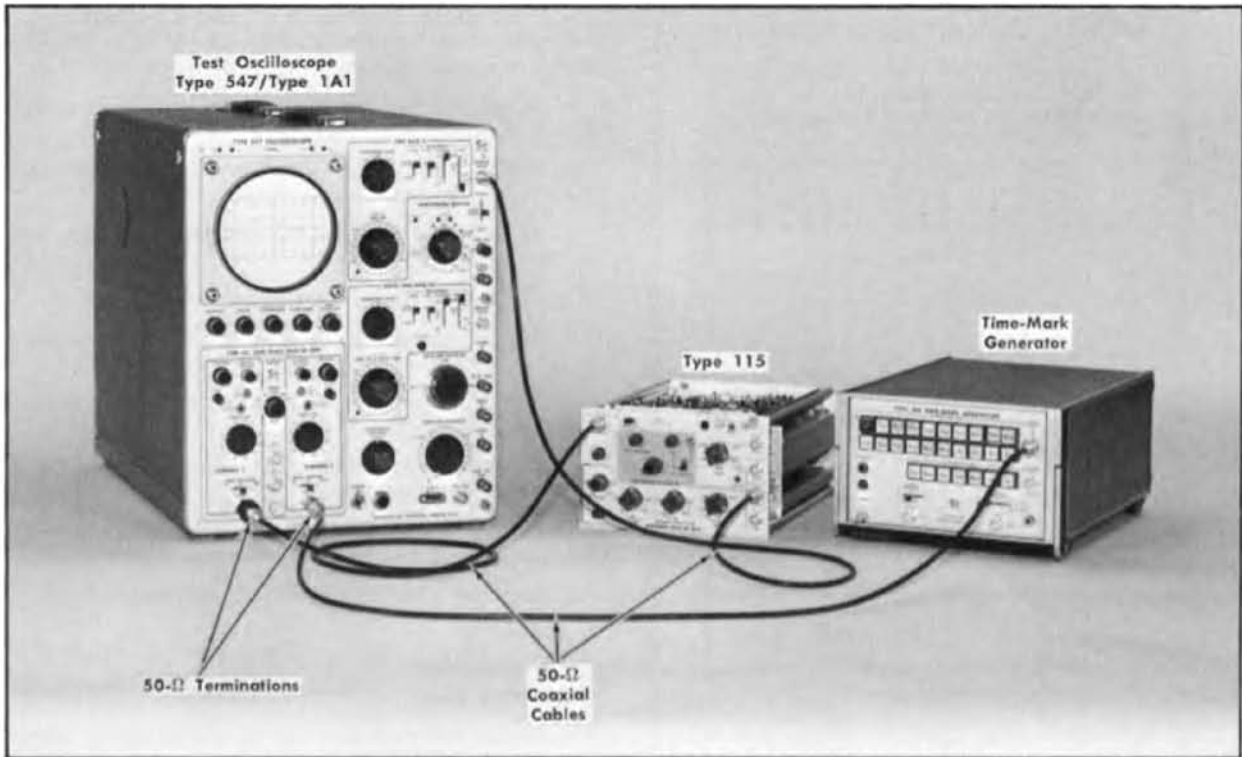

Fig. 5-11. Initial test equipment setup for steps 15 through 16.
- a. Test equipment setup is shown in Fig. 5-11.
a. Test equipment setup is given in Fig. 5-11.